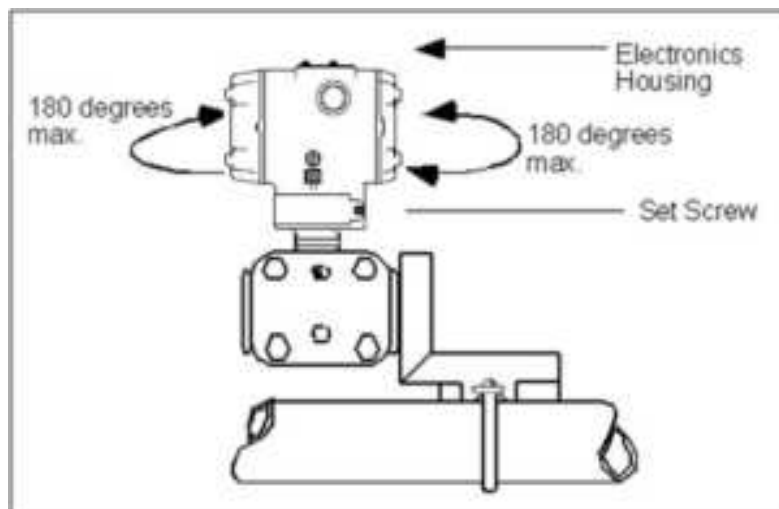

Figure 8 – ST 700 Standard Transmitter - Rotating the Electronics Housing
Once the transmitter is mounted, the electronics housing can be rotated to the desired position. See Figure 8 for details.
3. Loosen the set screw on the outside neck of the transmitter one (1) full turn.
4. Rotate the electronics housing a maximum of 180° left or right from the center to the position you require and tighten the set screw using a 4mm metric socket head wrench. See the following example and Figure 8.